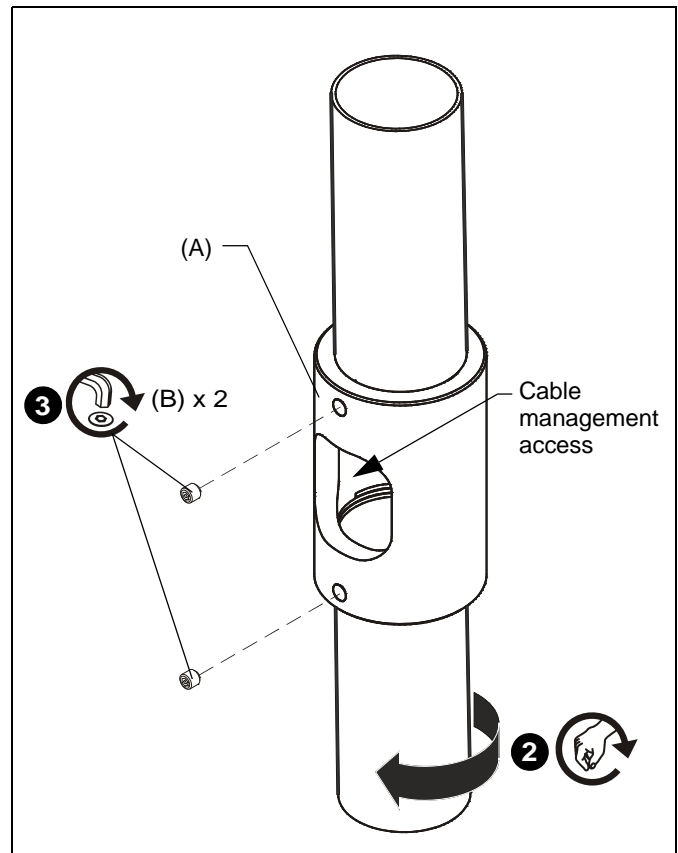

Figure 2
2. Thread lower 1-1/2" NPT threaded column (not included) into CMA152 adapter (A) by hand, with a minimum of four threads engaged. Orient cable management access to desired location. (See Figure 2)
3. Install and tighten two 5/16-18 x 5/16" security set screws (B) securely. (See Figure 2)